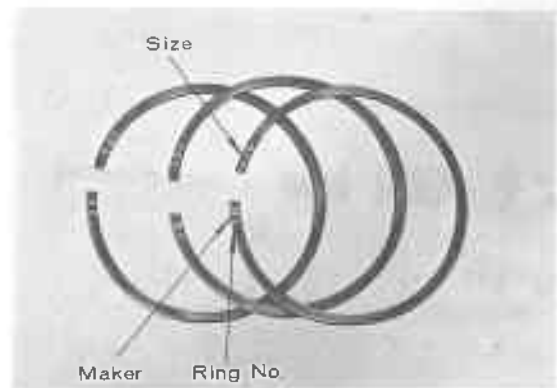

Fig. 3-58 Piston Rings
2. Install the piston rings onto the piston. The piston rings are provided with the marks as shown in figure 3-58. When installing the rings, face the marks upward and install the rings so that the ring numbers will be in order from the piston head side.